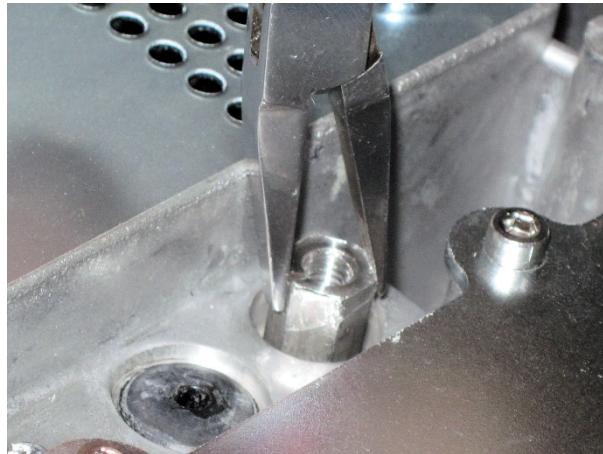

Figure 87 Instrument purge inlet port straight connector
7. Screw one of the straight connectors supplied into the instrument purge inlet port and tighten using the pliers supplied with the kit (Figure 87).